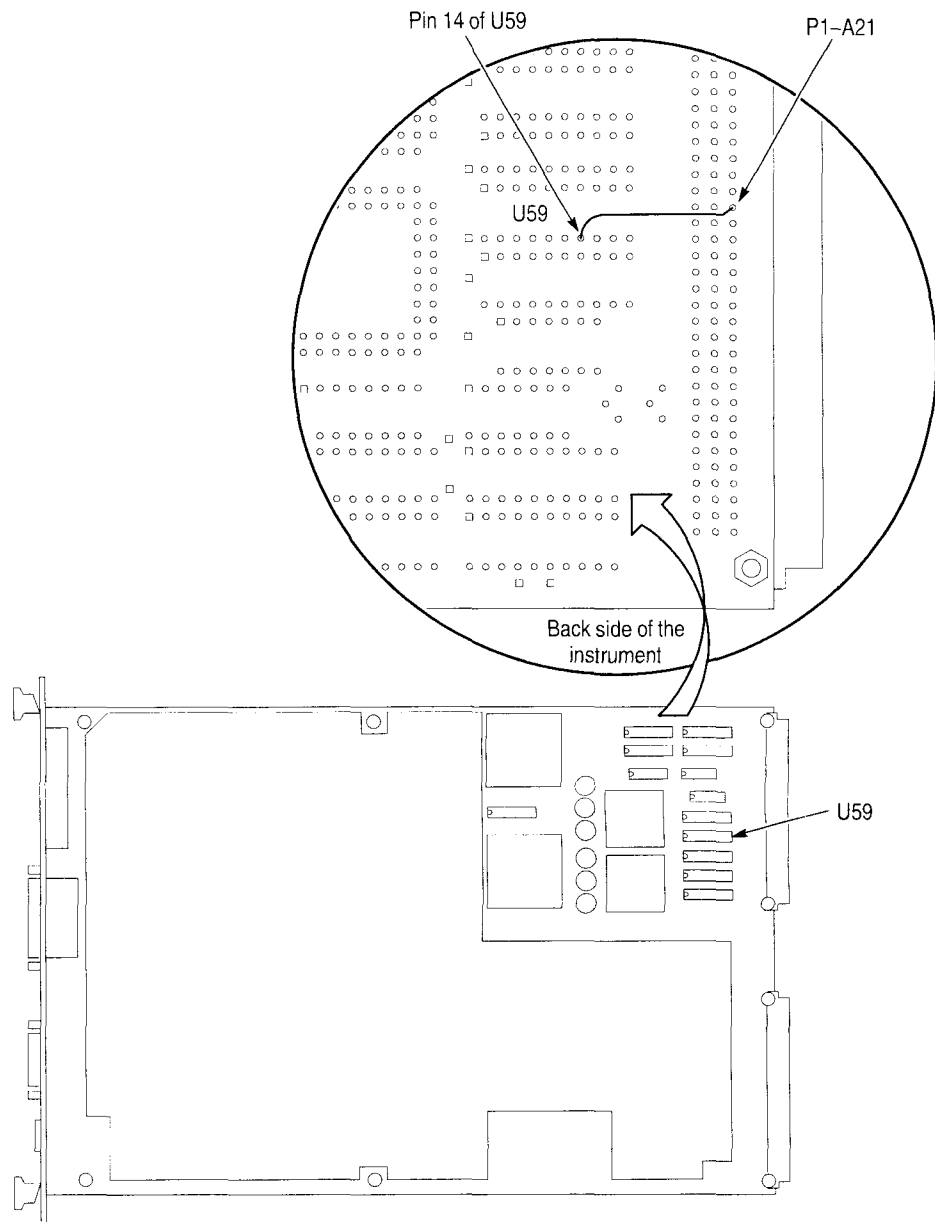

Figure 2: Install IC and wire strap
1. Unsolder and discard the IC located in U59. Refer to Figure 2.
4. Solder one end of the wire to P1-A21. Refer to Figure 2.
5. Solder the opposite end of the wire to pin 14 of U59. Refer to Figure 2.